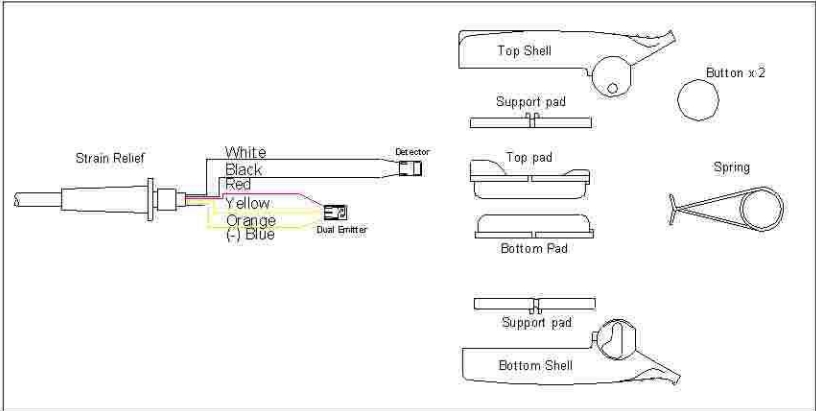

Fig 2.3
- 7. Solder wires to the detector, LED/I.R as shown in fig 2.3